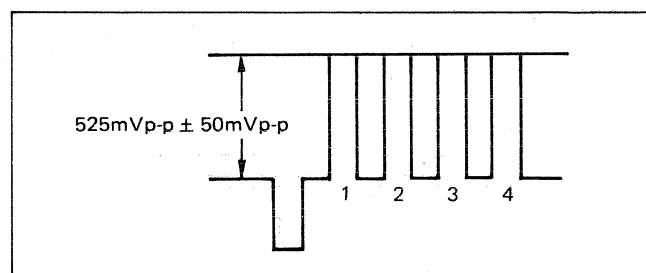

Fig. 26 (A)
6. Adjust R5285 (75 Chroma) so that the level (a) becomes as shown in Fig. 26 (B).